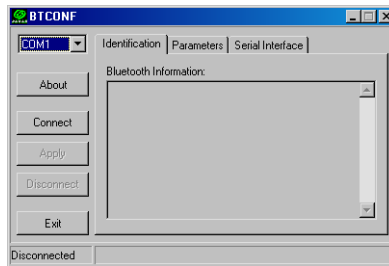

Figure 2-38. Bluetooth Module Configuration Main Screen
- Run the Bluetooth module configuration program (Btconf.exe) (Figure 2-38).